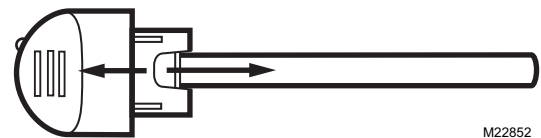

Fig. 18. Disconnect lamp glass from lamp handle.
- Grasp the lamp handle in one hand and the lamp glass in the other and pull straight apart. See Fig. 18.